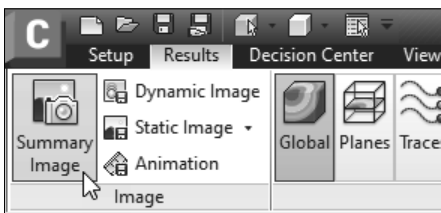
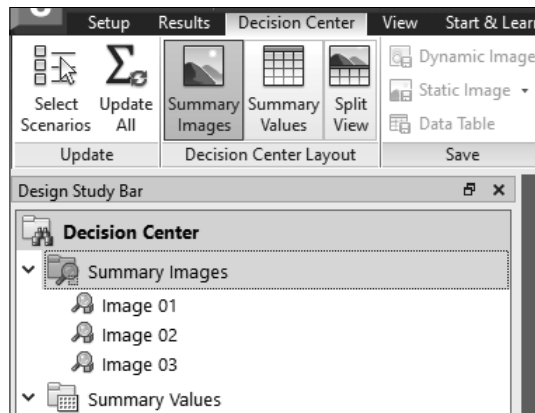

Figure-95. Summary Image button
Figure-96. Decision Center tab
- After the first analysis, perform a result task like Global, planes, Iso surfaces, etc., and click on the **Summary Image** tool from the **Image** panel; refer to Figure-95. The snap will be captured and added in the **Summary images** of the **Decision Center** tab of **Ribbon**; refer to Figure-96.